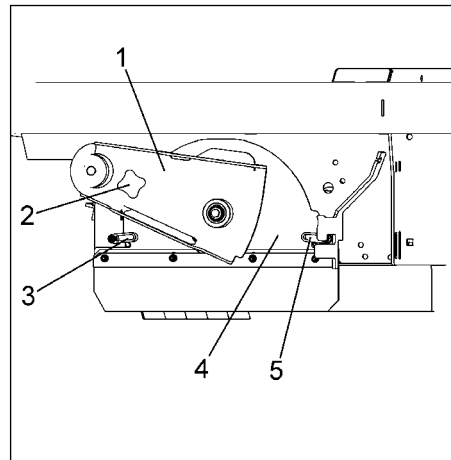

Fig.15
- Loosen star-shaped knob (Fig. 15/2) and remove
- Remove cylinder broom seating (Fig. 15/1)
- Turn handle (Fig. 15/3 +5) upwards and unlock
- Remove plate with sealing strip (Fig. 15/4)
The sweeping track width can be adjusted at the star-shaped knob (Fig. 15/2) as follows: